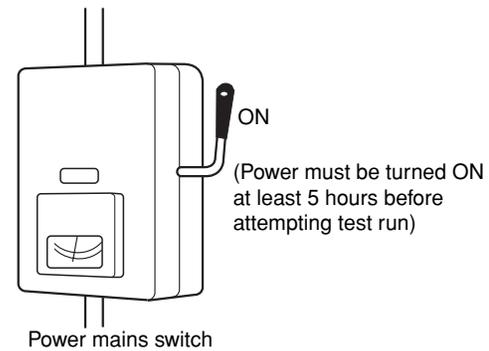

Fig. 7-1
- (1) All loose matter is removed from the cabinet, especially steel filings, bits of wire, and clips.
- (2) The control wiring is correctly connected and all electrical connections are tight.
- (3) The transportation pads for the indoor fan have been removed. If not, remove them now.
- (4) The power has been connected to the unit for at least 5 hours before starting the compressor. The bottom of the compressor should be warm to the touch and the crankcase heater around the feet of the compressor should be hot to the touch. (Fig. 7-1)